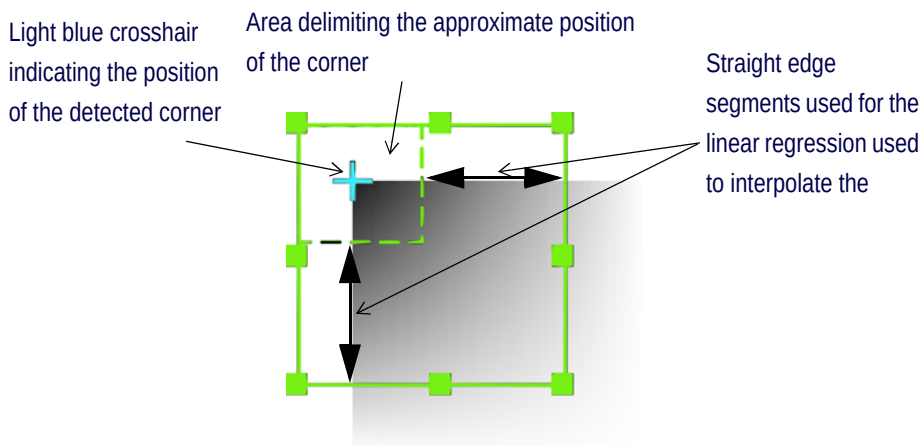

Figure 222 Corner Detection Mode
The Corner Detection mode provides corner detection tools that can automatically locate corners on objects. These tools appear as four (4) green rectangles in the display, as shown in Figure 221. Figure 222 illustrates the positioning of the corner detection rectangles.